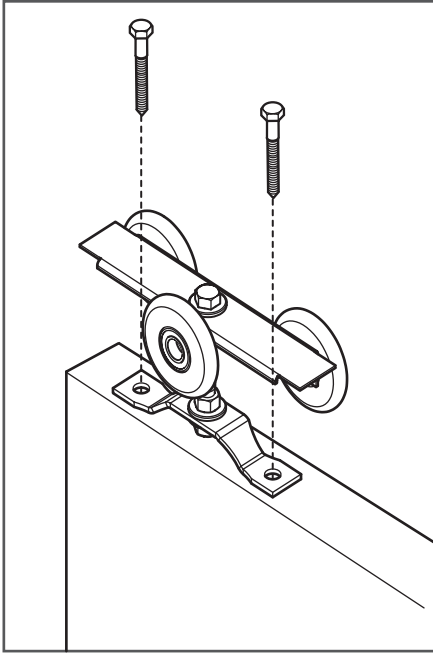

Figure 9
11. Install the hanger (D.) on the top of the door with the edge of the hanger lining up with the pencil mark on the top. Secure with two lag screws (H.) (Figure 9).